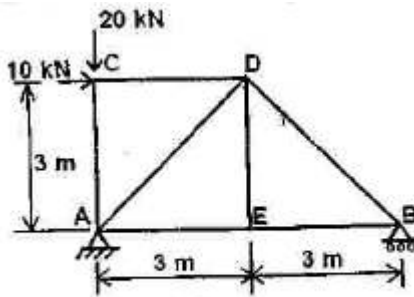

Fig. 2
- (b) Find horizontal deflection at point D for the truss shown in figure.2 Castigliano's first theorem. Take $EI= 2 \times 10^5 \text{ N/mm}^2$, $A=600 \text{ mm}^2$. **07**